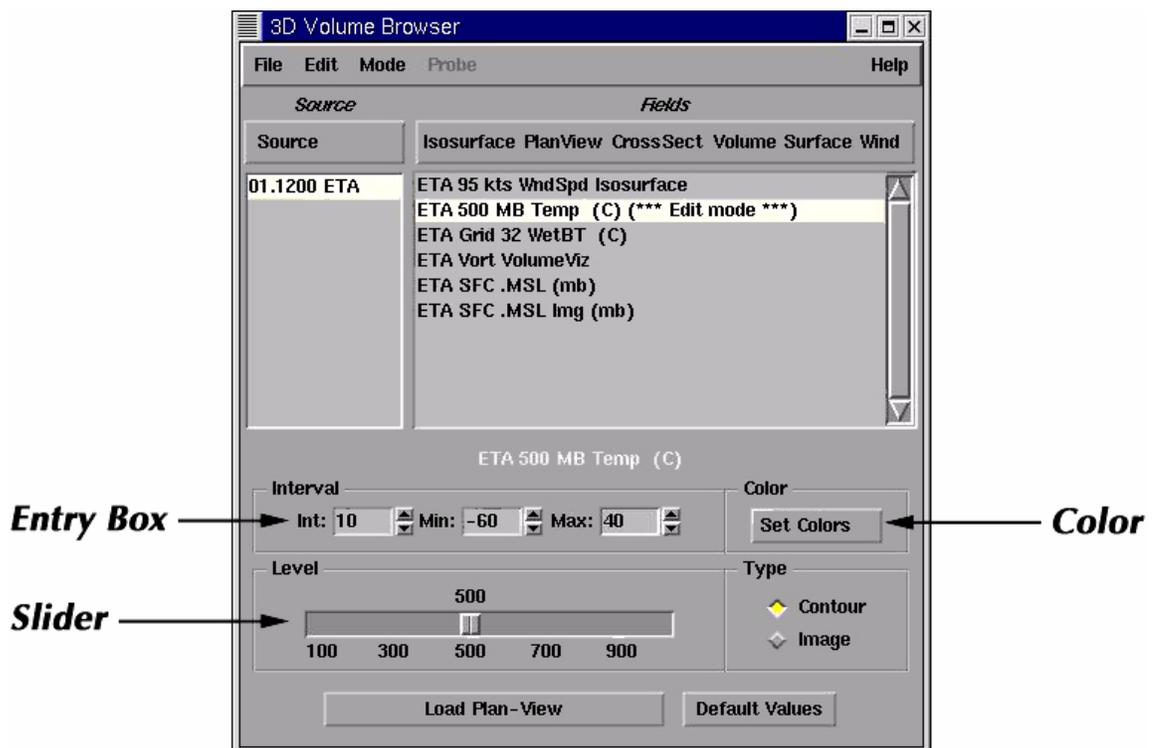

Figure 35. The Volume Browser - Plan-View Property Editor Opened.
- the middle area contains the Product List and, when opened, the Property Editor (see Figure 35.); and
Pressing Mouse Button 3 over a product name in the Product List causes a popup menu (with value, color, and other widgets) to appear at the bottom of the Volume Browser, as illustrated in Figure 35. The product name is also modified to say (***) Edit mode (***) indicating that, currently, this product is being edited.